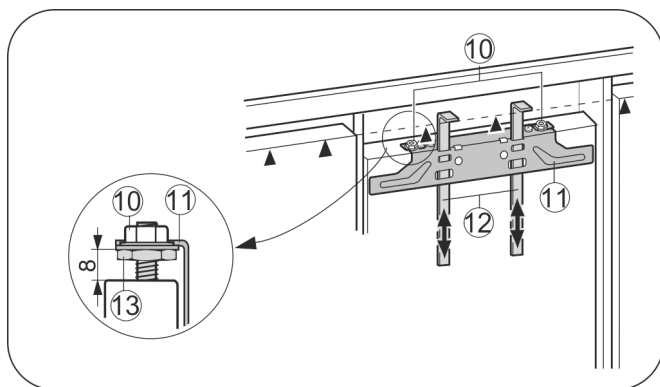

Fig. 17
- Push up assembly aids Fig. 17 (12) to unit door height. Lower edge ▲ of the assembly aid = top edge of the unit door to be fitted.
- Unscrew fastening crosspiece Fig. 17 (11) by undoing the locknuts Fig. 17 (10).